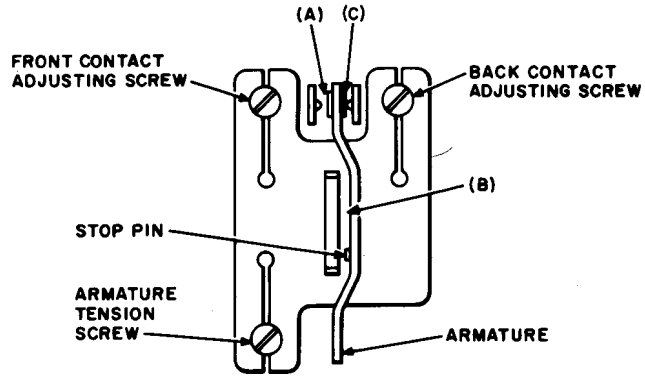

Fig. 12—Illustrating the Location of the Adjusting Screws for Spring Combinations (Fig. 1, 2, 3, 5, 6, 8, 11, 12, 13, 14, 15 and 16 Table B)
2.13 Contact Separation: Fig. 12(A)—The separation between contacts normally open or between contacts that are opened when the relay is operated (Fig. 12(C), shall be
2.14 Armature Travel: Fig. 12(B)—It is desirable to adjust the Front Contact Make and Contact Separation to near minimum values as this will
(1) **Operate or Hold:** If the relay fails to meet the operate or hold requirement, reduce the back tension on the armature using the KS-6854 screwdriver. On relays having adjusting screws in the positions shown in Fig. 9, turning the armature tension screw in decreases the back tension on the armature and turning it out increases the tension. On relays having adjusting screws in the position shown in Fig. 12 turning the armature tension screw out decreases the back tension on the armature.